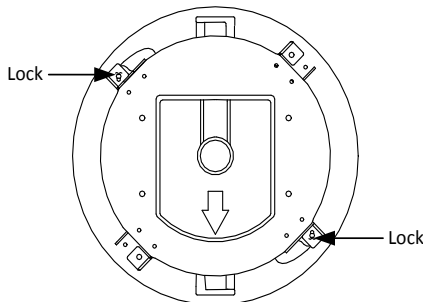

Figure 2-12 Locks and Lock Screws
- 1). Loosen the two lock screws on both sides of the back box and make the locks in internal position as shown in Figure 2-12.